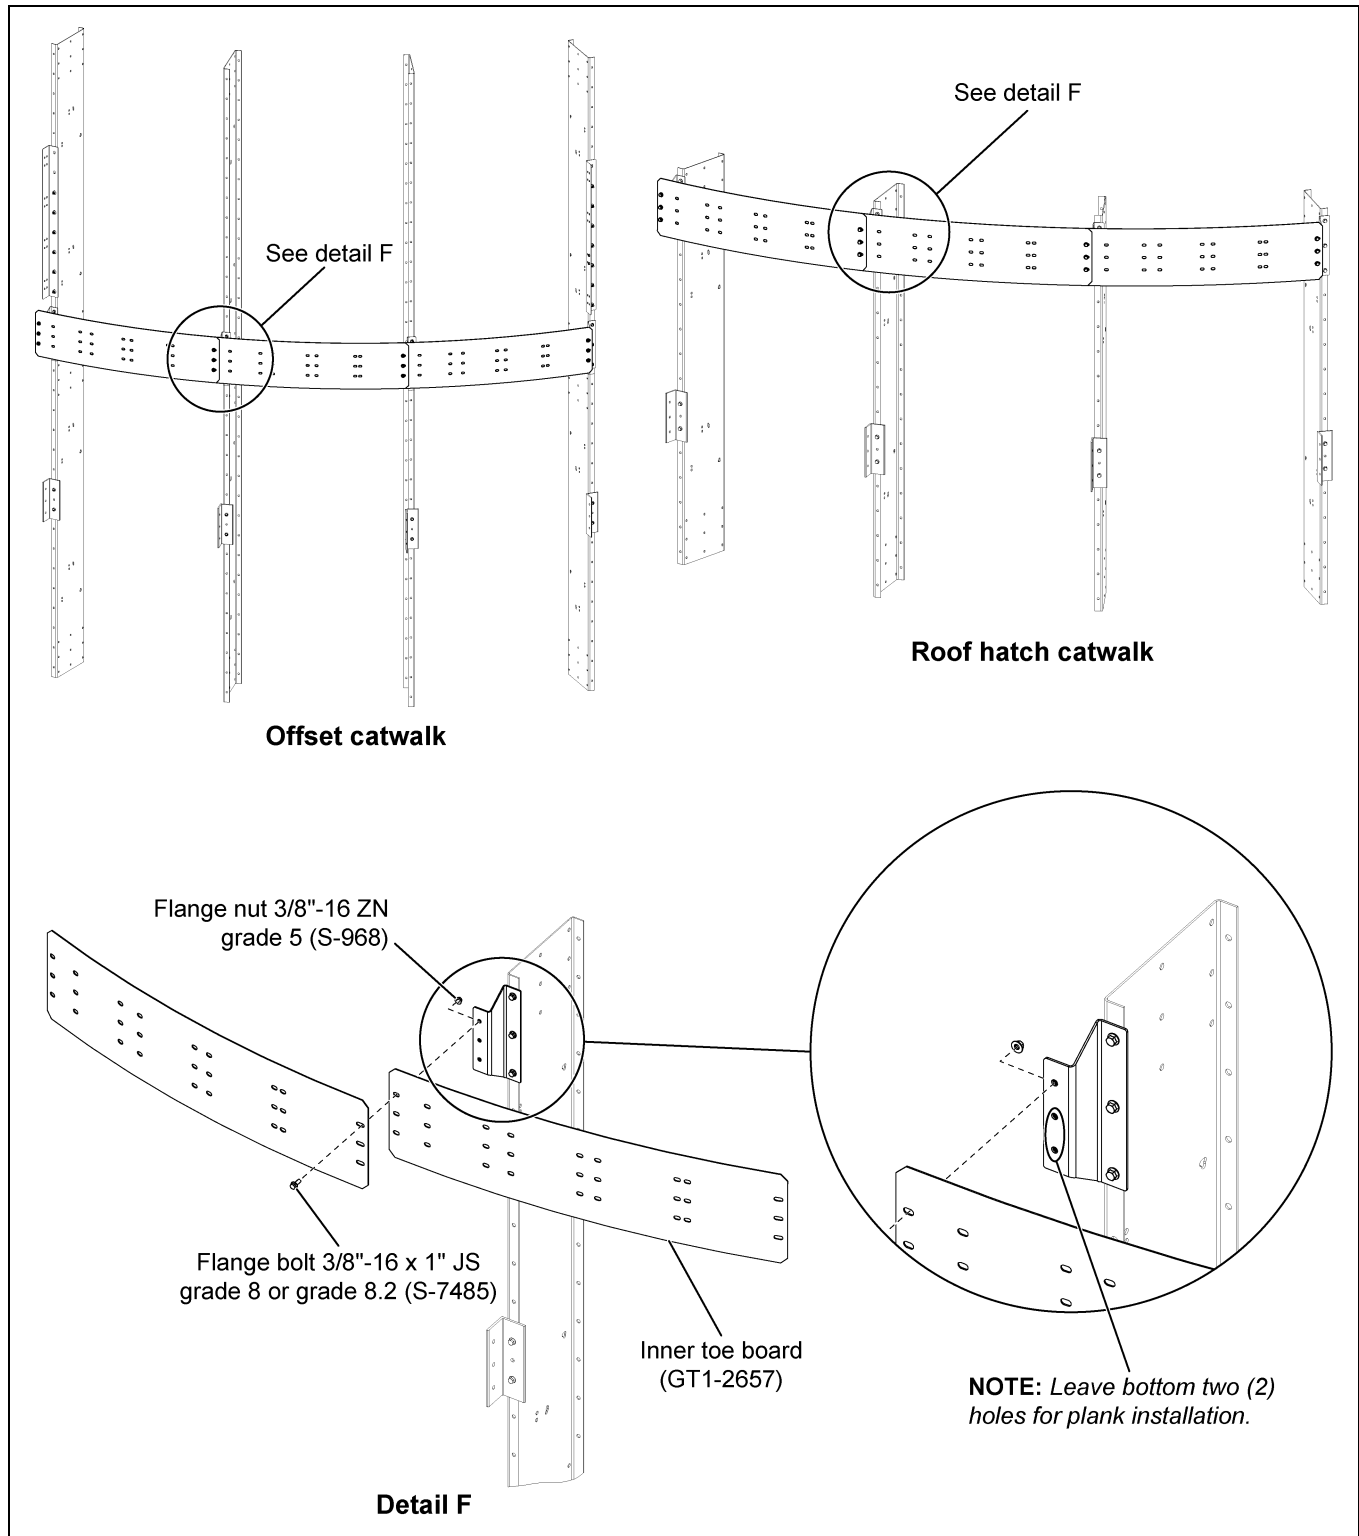

Figure 6K Inner Toe Board Installation for Offset and Roof Hatch Catwalks
1. Install the inner toe board (GT1-2657) to the Z-clips (GT1-2036). *(See Figure 6K.)*
2. All the toe boards should be installed between the Z-clips using 3/8"-16 x 1" JS grade 8 or grade 8.2 bolts (S-7485) and 3/8"-16 ZN grade 5 nuts (S-968). *(See Figure 6K.)*